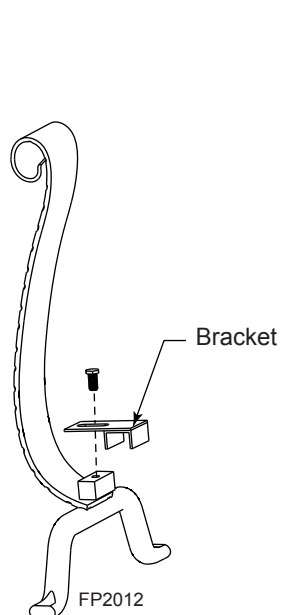

Figure 29 - Attach Bracket to Andiron
1. Affix bracket to andiron using 2¹/₄ bolts. *Figure 29*